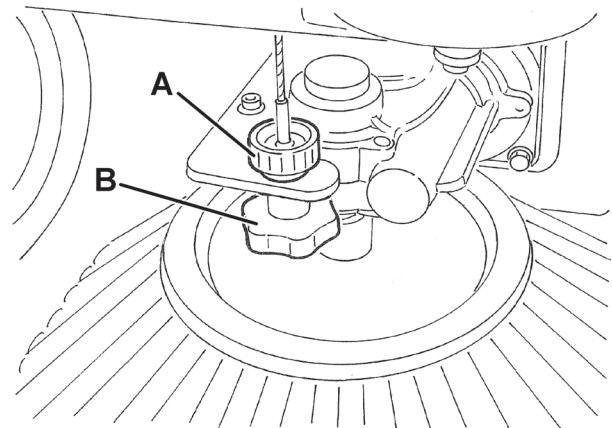

Figure 8
3. Turn the ignition key (72) to "0".
4. Loosen the knob (A, Fig. 8) positioned above the broom.
5. Turn the knob (B), and remind that: